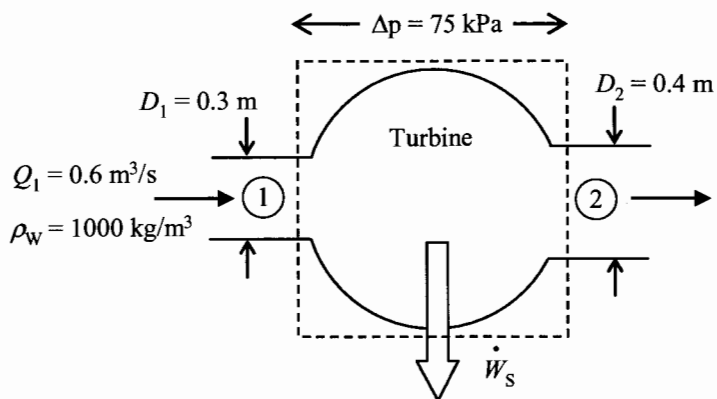

Figure 3
4. The horizontal turbine shown in Figure 3 is supplied with water at flow rate  $Q = 0.6 \text{ m}^3/\text{s}$  through the inlet pipe of diameter 0.3 m. The outlet pipe has diameter 0.4 m. The pressure difference across the turbine is measured to be 75 kPa. Calculate the shaft power  $\dot{W}_S$  delivered by the turbine.